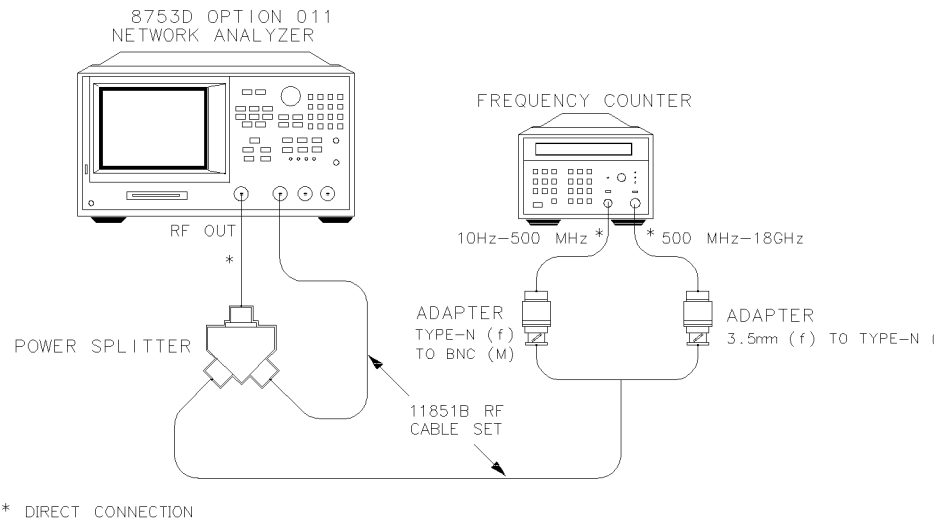

Figure 6-1. Source Frequency Range and Accuracy Test Setup
- Connect the equipment as shown in Figure 6-1.